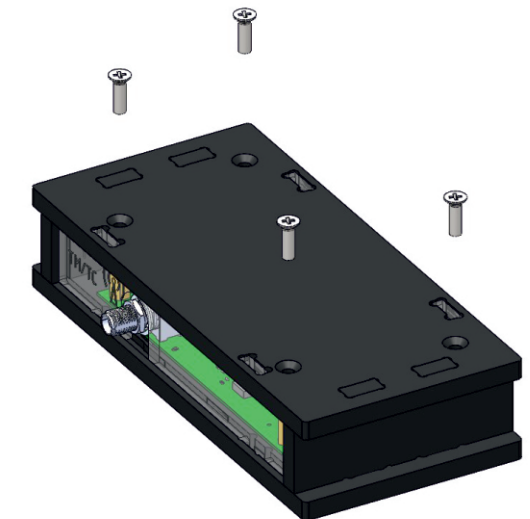

Fig. 79: Securing the cover with screws
5) Fix a cover by four M3x10 countersunk head screws (Fig. 79):